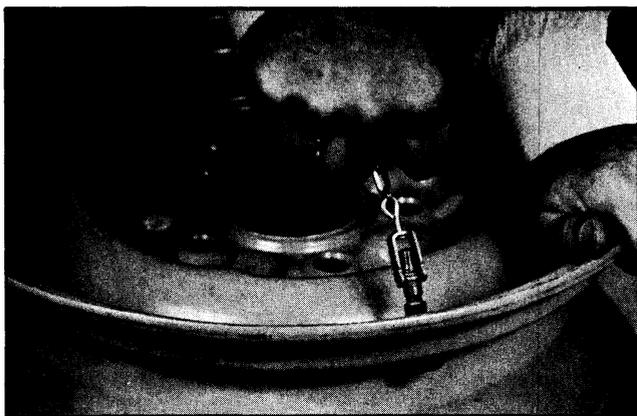

Fig. 4-20 Installing Valve
4. Use a tire valve fishing tool as shown in Fig. 4-20 and pull the valve through hole in rim until valve snaps into position.